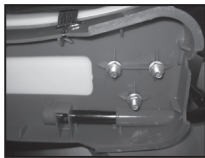

Figure 3
4) Remove the three bolts/washers attaching the piston cylinder to the bottom of the tank (Figure 3).